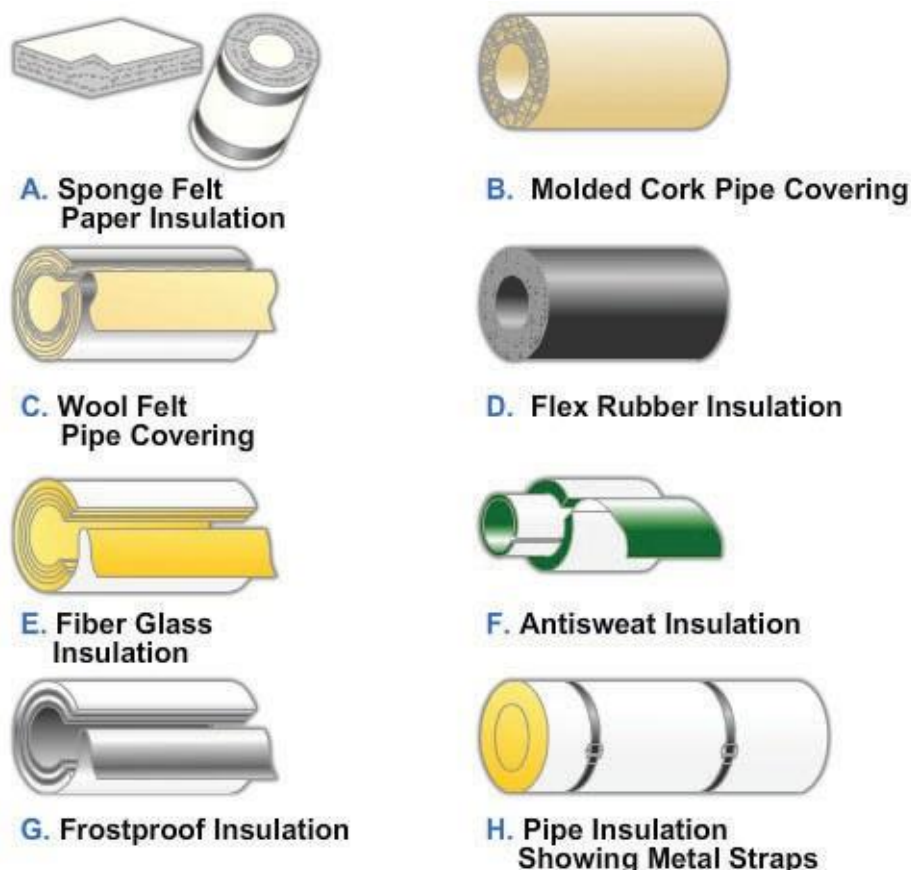

Figure 5-39 – Types of pipe insulation.
Sponge felt paper is composed of asbestos paper with a maximum amount of sponge evenly distributed within it, as shown in *Figure 5-39, View A*. Sponge felt paper is manufactured to fit most pipe sizes. It comes in 3-foot lengths and from 1 to 3 inches in thickness.
Cork pipe covering is a granulated material processed from the bark of cork trees. Granulated cork is compressed and molded to size and shape and finished with a coating of plastic asphalt. Cork pipe covering, as shown in *Figure 5-39, View B*, is an ideal covering for brine, ammonia, ice water, and all kinds of cold waterlines, and it insulates well over a wide low-temperature range. Cork pipe covering does not rot or support combustion. Clean, sanitary, and odor free, it is available in a wide variety of sizes and shapes to fit various sizes of pipes and fittings.
Wool felt is made of matted fibers of wool, wool and fur, or hair, worked into a compacted material by pressure rolling. It is used on cold-water service and hot-water return lines. Wool felt preformed pipe covering is manufactured in thicknesses of 1/2 to 1 inch, with a canvas jacket, as shown in *Figure 5-39, View C*. It is manufactured in 3-foot lengths for straight runs of pipe.
Flex rubber insulation, shown in *Figure 5-39, View D*, is a tough, flexible rubber material constructed of millions of uniform closed cells. It has good insulating qualities, good cementing qualities, excellent weather-aging qualities, and it is ideal for the
Fiberglass pipe insulation, shown in *Figure 5-39, View E*, is composed of very fine glass fibers, bound and formed together by an inactive resin type of mixture. It is formed into a flexible hollow cylinder and slit along its length for applying to pipes or tubing. It is furnished in 3-foot lengths with or without jackets. The insulation comes in thicknesses from 1/2 to 2 inches and fits pipes from 1/2 to 30 inches. Fiberglass insulation has a long life; it will not shrink, swell, rot, or burn. It is easily applied and light in weight, saves space, and has excellent insulating qualities.
Antisweat insulation, shown in *Figure 5-39, View F*, is designed for cold-water pipes. It keeps the water colder in the pipes than most types of insulation; and when installed properly, it prevents condensation, or sweating, of the pipes.
Frost-proof insulation, shown in *Figure 5-39, View G*, is manufactured for use on (1) cold-water service lines that pass through unheated areas, and (2) those lines exposed to outside weather conditions.
After you have applied the cheesecloth and smoothed it out, install metal straps to hold the insulation firmly in place, as shown in *Figure 5-39, View H*.